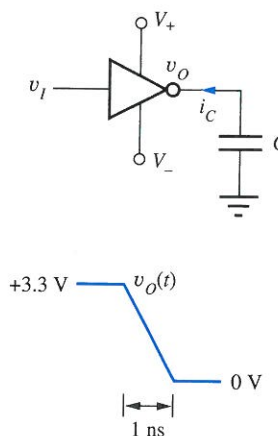

Figure P6.31 Bus driver and switching waveform.
- 6.31. A high-speed microprocessor must drive a 64-bit data bus in which each line has a capacitive load C of 40 pF, and the logic swing is 3.3 V. The bus drivers must discharge the load capacitance from 3.3 V to 0 V in 0.8 ns, as depicted in Fig. P6.31. Draw the waveform for the current in the output of the bus driver as a function of time for the indicated waveform. What is the peak current in the microprocessor chip if all 64 drivers are switching simultaneously?
- 6.32. Repeat Prob. 6.31 for a processor with a 1-GHz clock. Assume that the fall time must be 0.1 ns instead of 1 ns, as depicted in Fig. P6.31.